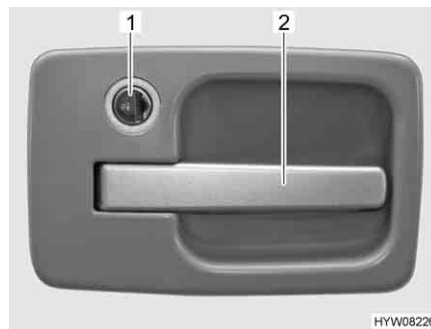

Fig. 26 Door lock of conversion door, outside
- Insert the key into the locking cylinder (Fig. 26,1) and turn towards the "U" symbol. The door lock is unlatched.
- Pull on the handle (Fig. 26,2). The door is open.
- Insert the key into the locking cylinder (Fig. 26,1) and turn towards the "L" symbol. The door lock is locked.